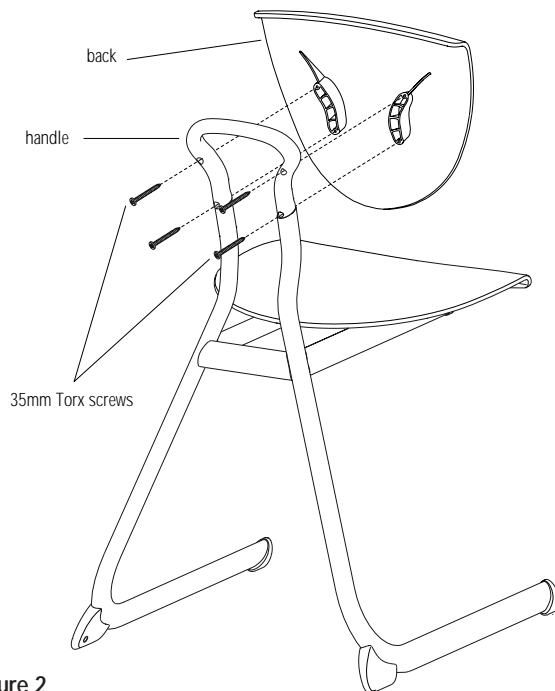

Figure 2
3. To remove an existing back, first locate the four 35mm Torx screws which are recessed into the back of the handle. Remove the screws with a Torx T20 drive (Figure 2).
4. To install a new back, first position the back in place over the mounting holes and loosely start each of the four 35mm Torx screws. Using a Torx T20 drive, carefully tighten each of the four screws (Figure 2).